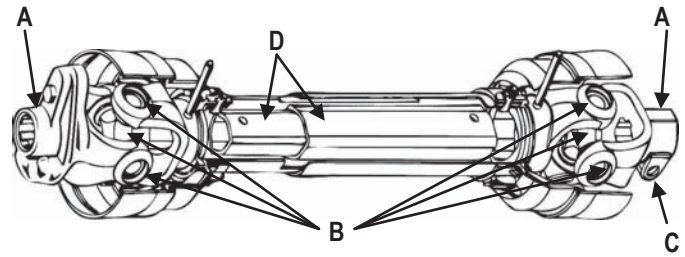

Fig 3-2 Driveline Lubrication
3. **Driveshaft - Refer to Figure 3-2:**